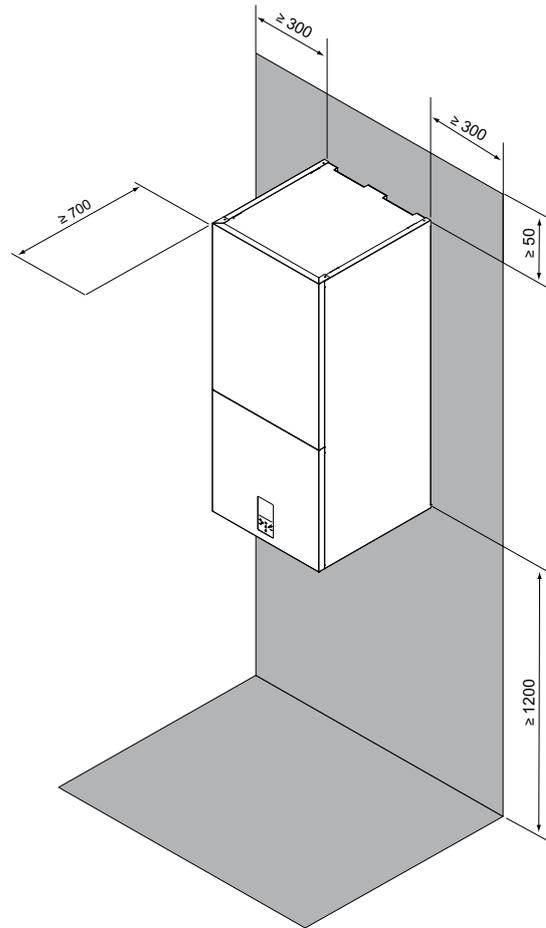

fig. 9 - minimum operating area for indoor unit
- The space around the unit is adequate for serving, see fig. 9.